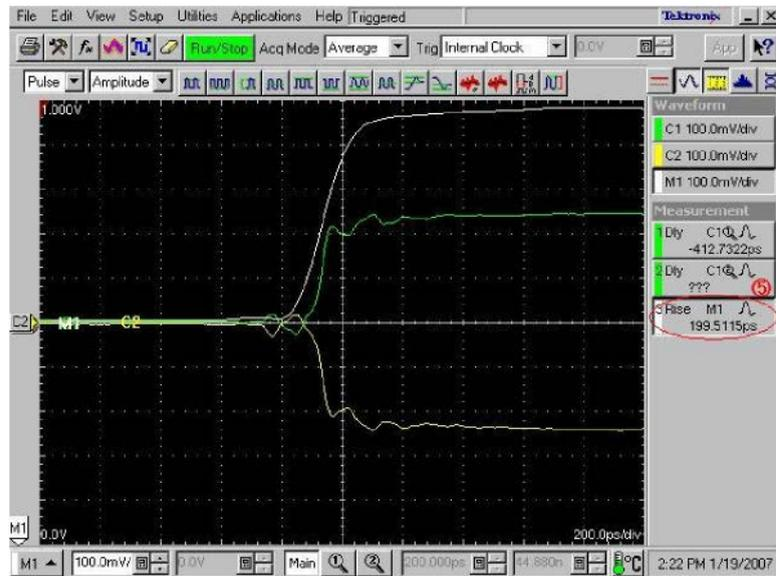
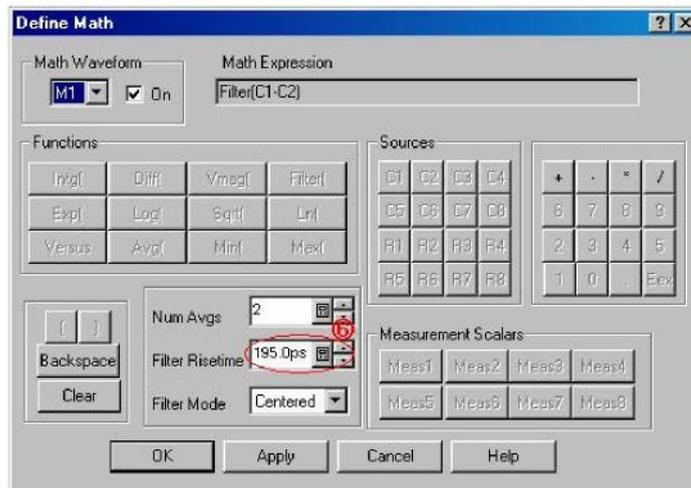

Figure 7: Adjusting the rise time
Figure 8: Changing the Filter Risetime value
7. For **Differential mode**, adjust the rise time so that the reading of ⑤ in Figure 7 is 200 ps by changing the **Filter Risetime** value (see ⑥ in Figure 8). If you cannot adjust the value to 200 ps exactly, set it to the nearest value below 200 ps.
8. For **Common mode**, adjust the rise time so that the reading of ⑤ in Figure 7 is 600 ps by changing the **Filter Risetime** value (see ⑥ in Figure 8). If you cannot adjust the value to 600 ps exactly, set it to the nearest value below 600 ps.
1. From the TDR menu, set the pulse in diff mode using the 200ps rise time filter setup as shown in Figure 7.